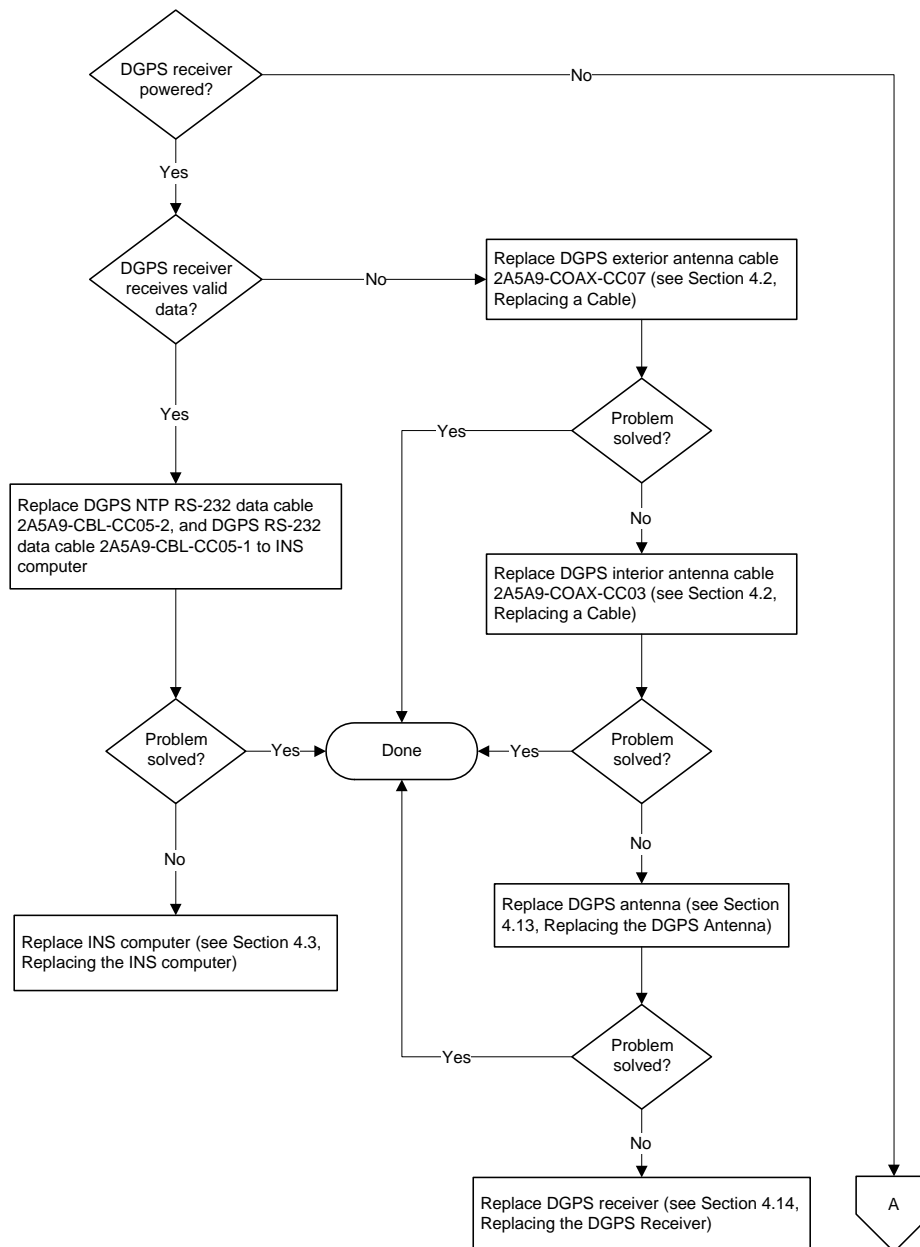
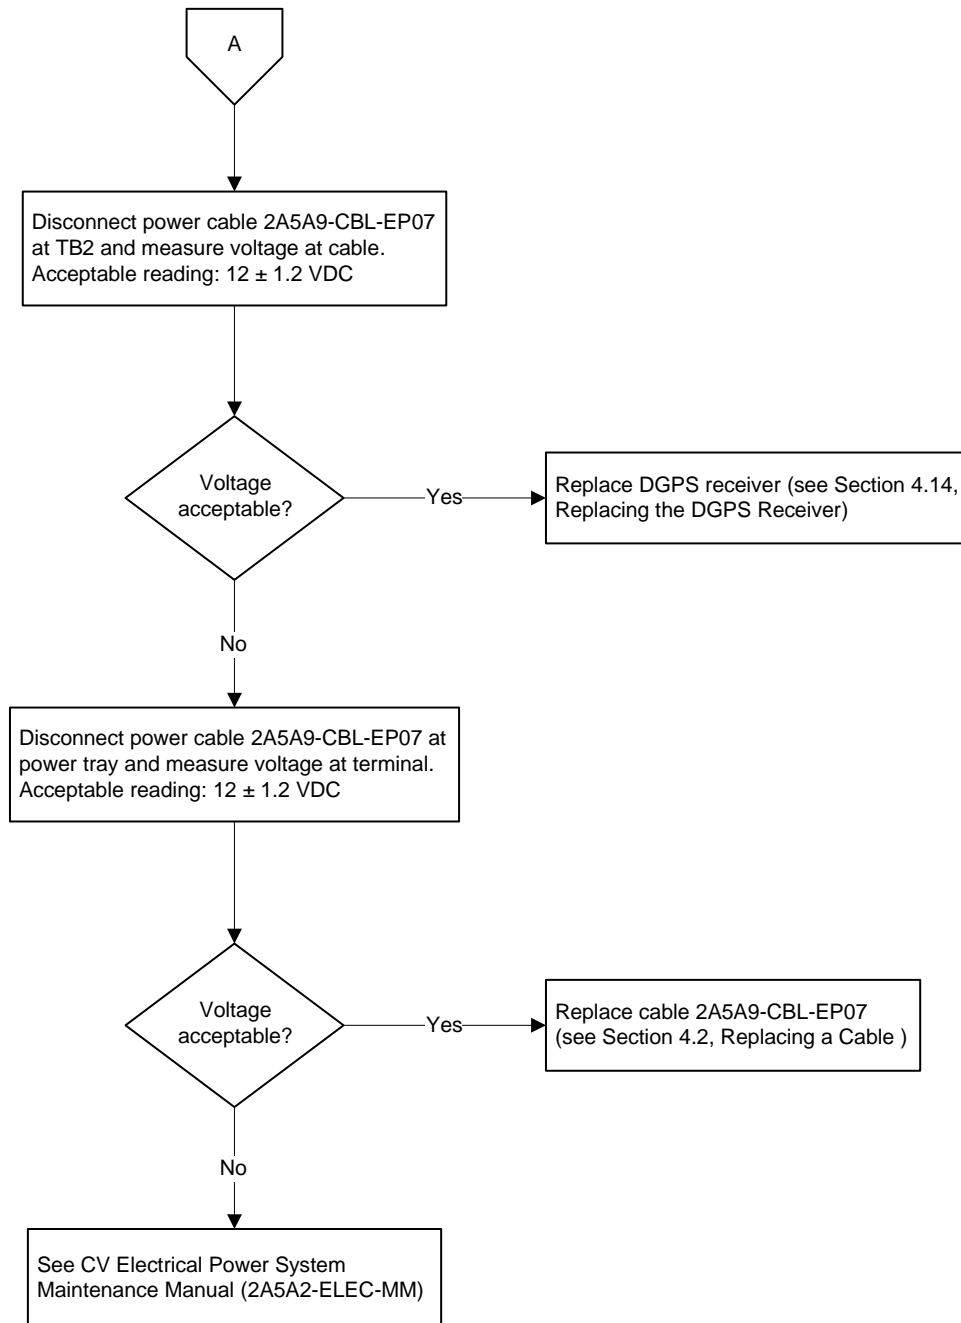

Figure 4 Troubleshooting – INS Computer is not Communicating with DGPS Receiver – Sheet 1
Figure 5 Troubleshooting – INS Computer is not Communicating with DGPS Receiver – Sheet 2
- Follow the troubleshooting steps in Figure 4 and Figure 5.